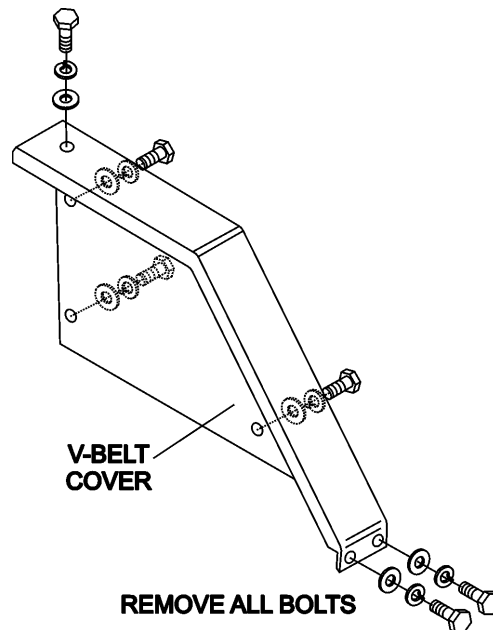

Figure 12. V-Belt Cover Removal
1. Remove the bolts that secure the V-belt cover (Figure 12) to the saw frame.